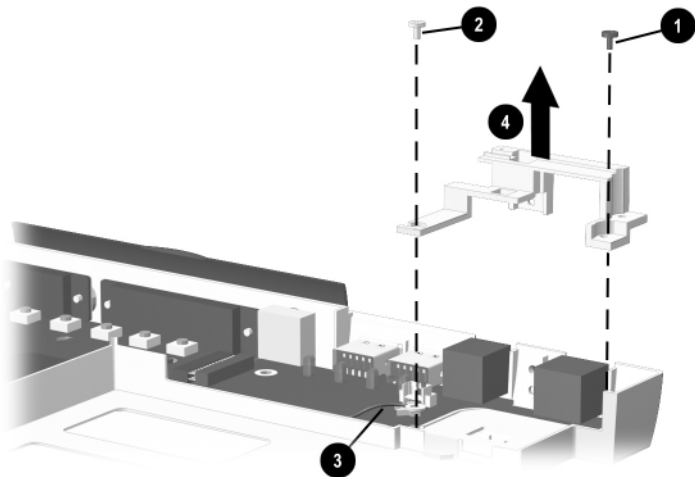

Figure 5-24. Removing the Right Display Support
2. Remove the black M2 × 9 screw ❶ and the silver M2 × 6.5 screw ❷ that secure the right display support to the base enclosure. The silver M2 × 6.5 screw also captures the modem/NIC ground cable ❸ (Figure 5-24).
3. Remove the right display support ❹.